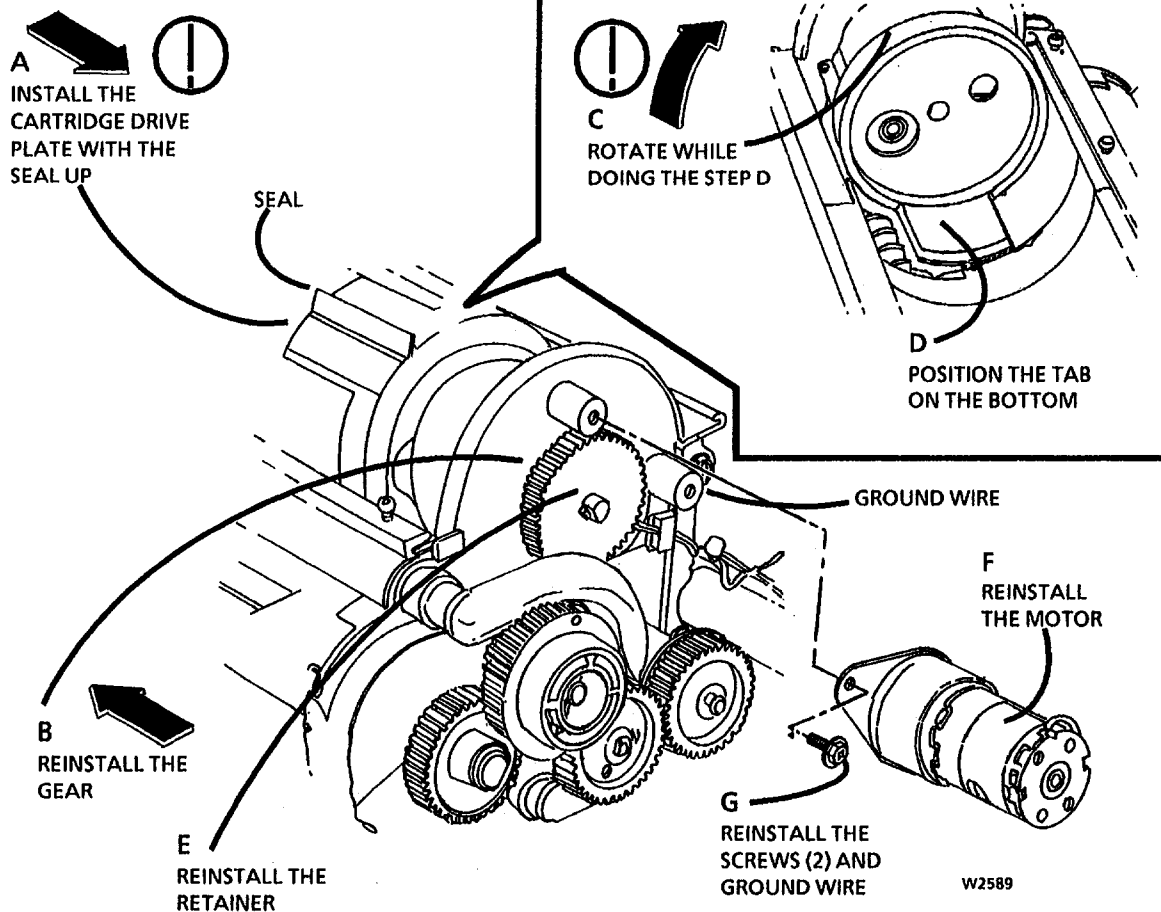

Figure 2. Install the Cartridge Drive Plate
⚠ STEP 1 C: To avoid damage to the drive plate seal, always rotate the drive plate in the direction shown in Figure 2.
1. (Figure 2): Reinstall the Cartridge Drive Plate.